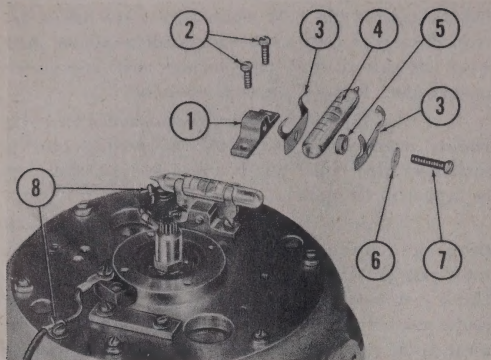

Figure 175 — Rotor Case Level Vial, Exploded View
(10) REMOVE LEVELING VIALS AND BRACKETS. (See figure 175.) Loosen the clamping screw (7) securing each vial; pull the glass vial (4) from between the clamps (3). Remove the two fillister-head screws (2) securing the leveling vial bracket (1) to the rotor case; remove the bracket.